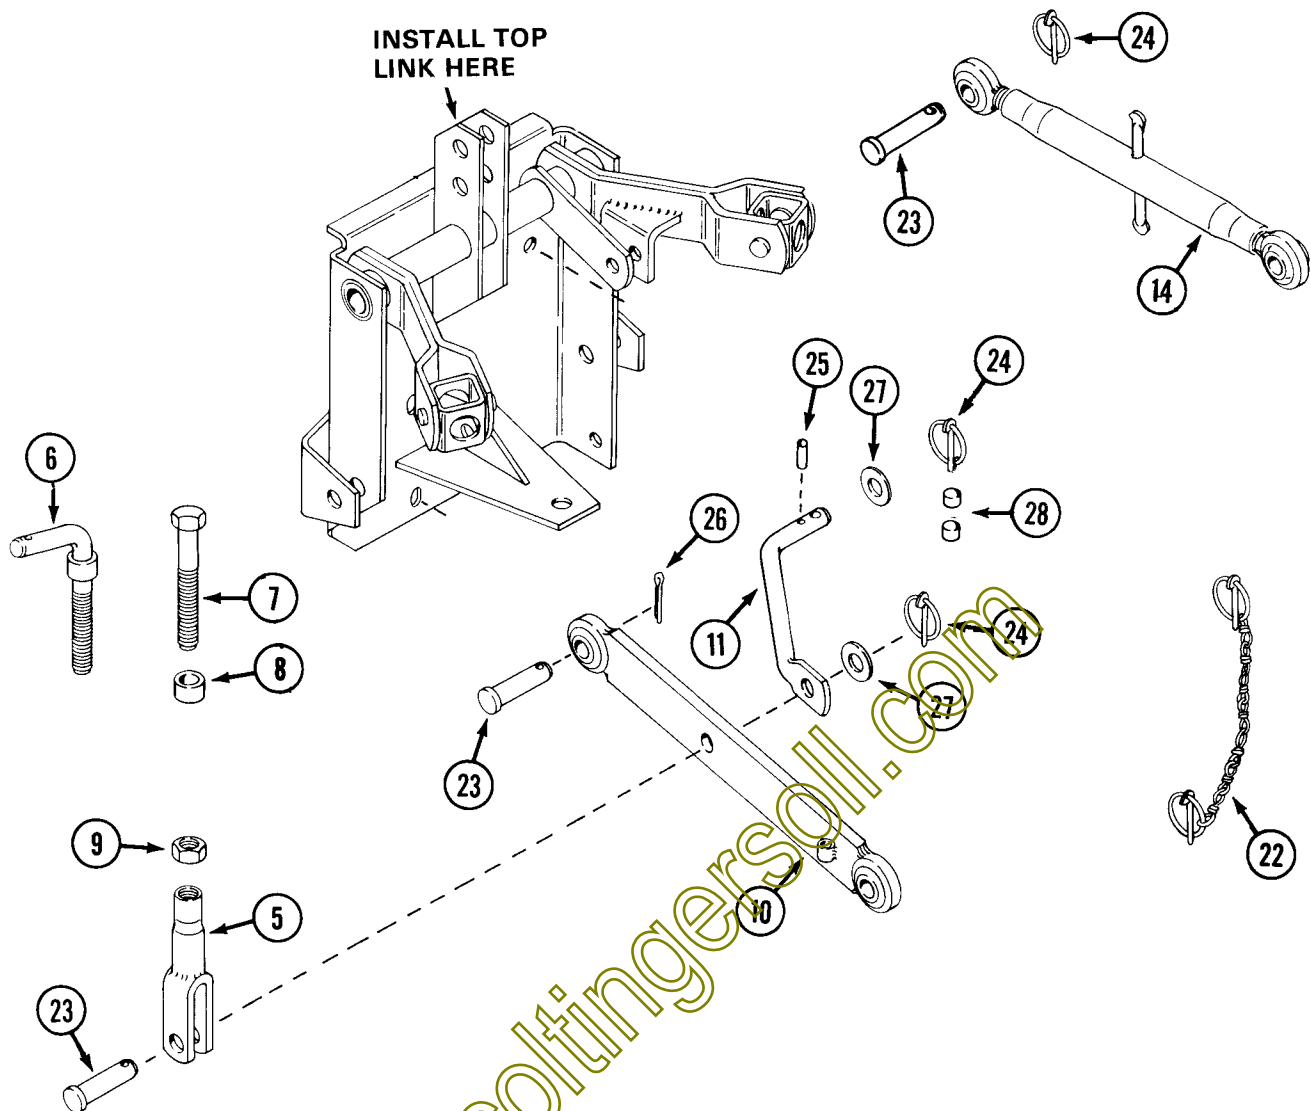

FIGURE 7
- b. Position the upper plate so it extends upward for 3000 series tractors (shown in Figure 7) and downward for 4000 series tractors (not shown). The upper plate should be fastened with the original bolt on the left side and a new 1/4 inch longer bolt (provided) on the right side.
See Figure 7